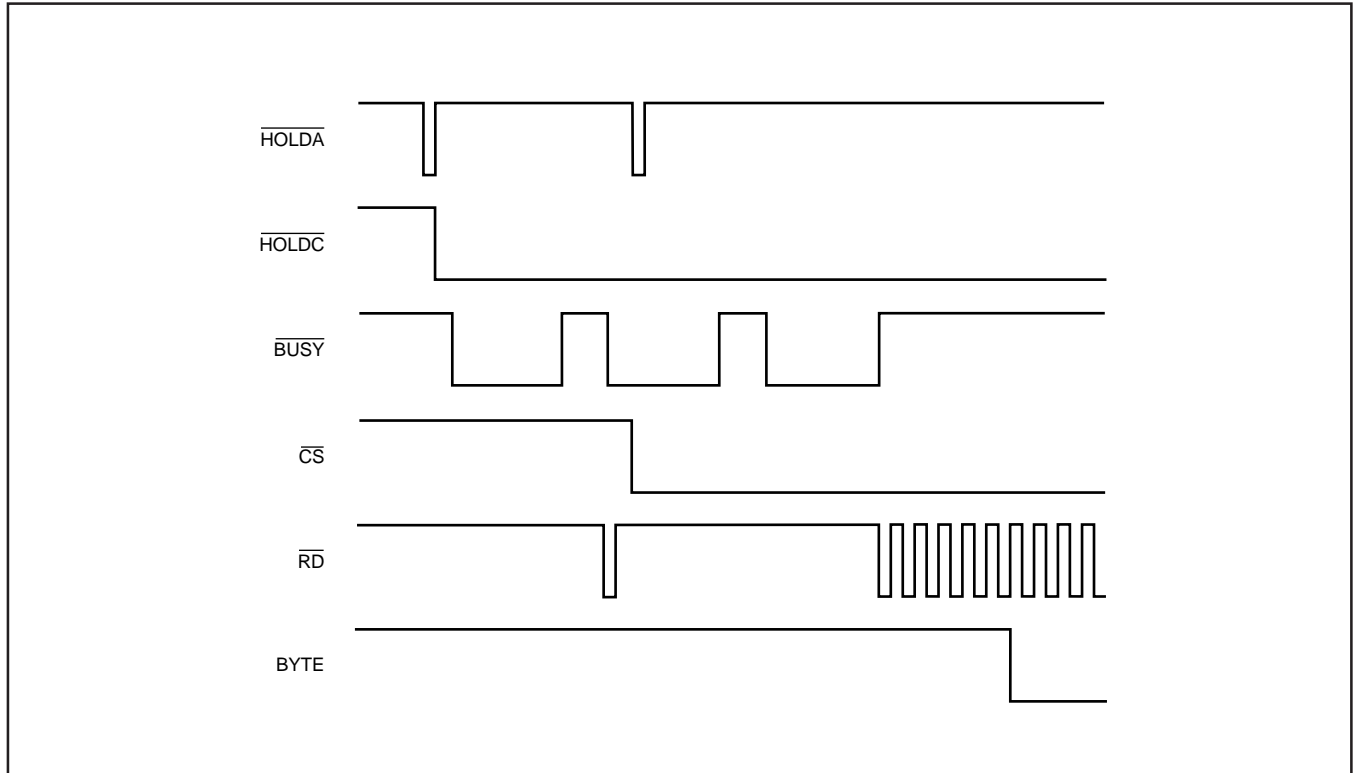

FIGURE 11. Reading Data in Cycling Mode.
**BYTE**—If there is only an 8-bit bus available on a board then Byte can be set HIGH (see Figures 11 and 12). In this case, the lower eight bits can be read at the output pins DB7 to DB0 at the first  $\overline{\text{RD}}$  signal and the higher bits after the second  $\overline{\text{RD}}$  signal.
With (A2 A1 A0) = 110 the interface is running in a cycle mode (see Figures 11 and 12). Here, data from channel A0 is read on the first  $\overline{\text{RD}}$  signal, then A1 on the second, followed by B0, B1, C0 and finally C1 before reading A0 again. Data from channel A0 is brought to the output first after a reset-signal or after powering the part up.